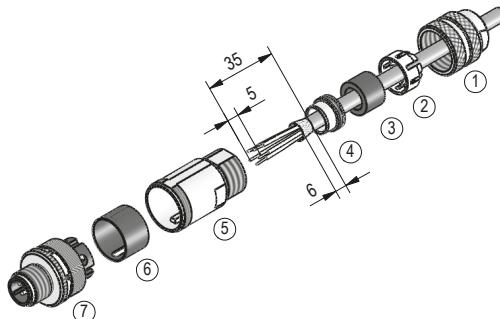

Fig. 3: Straight mating connector M12
- Accessory SIKO art. no. "87601" M12 D coded (plug pin 4 pole Bus) (Fig. 3).
- Accessory SIKO art. no. "83526" M12 A coded (socket 4 pole Power) (Fig. 3).
##### Mounting (Fig. 3)